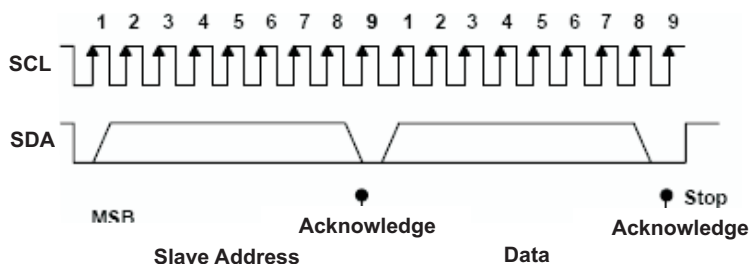

Figure 26. I²C Address and Data Cycles
- The master generates further SCL cycles to transmit data to the slave (R/W bit 0) or *receive* data from the slave (R/W bit 1). In either case, the *receiver* needs to acknowledge the data sent by the *transmitter*. So an acknowledge signal can either be generated by the master or by the slave, depending on which one is the receiver. The 9-bit valid data sequences consisting of 8-bit data and 1-bit acknowledge can continue as long as necessary (see Figure 26).
- To signal the end of the data transfer, the master generates a *stop condition* by pulling the SDA line from low to high while the SCL line is high (see Figure 26). This releases the bus and stops the communication link with the addressed slave. All I²C compatible devices must recognize the stop condition. Upon the receipt of a *stop condition*, all devices know that the bus is released, and they wait for a *start condition*, followed by a matching address.